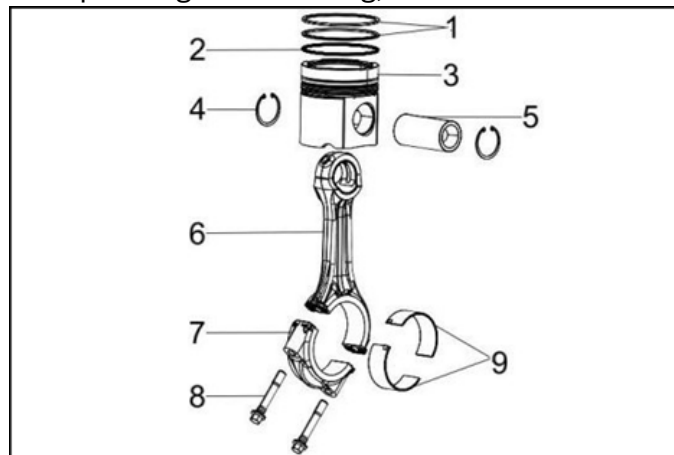

Figure 132.
2. Carefully clean the ring grooves of the piston (Figure 132, item 3). Fit the piston rings (Figure 132, items 1 & 2) with the special tool.
4. Check all the connecting rods (Figure 132, item 6) and make sure that the connecting rods are in the same weight group.
5. Fit the 1st circlip (Figure 132, item 4) onto one end of the piston.
6. Lightly oil the bore openings and insert the piston pin (Figure 132, item 5) into the first part of the bore.